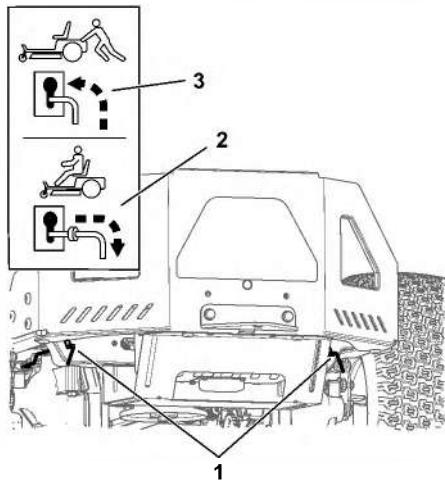

Figure 30
- Move both bypass levers forward through the slotted hole and down to lock them in place (Figure 30).